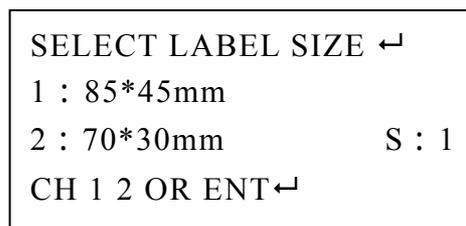

Figure 36
3. Press  and  at the same time (Label size chosen buttons), panel board will display as below figure 36, Message columns will display "CH 1 2 OR ENT←"